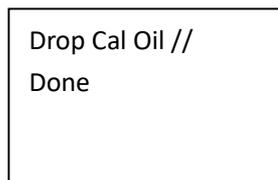

Fig.5
5. As indicated on the display, drop new oil to be tested to the testing bowl. Press the Power button to execute calibrating until the display shown result stored as shown in Fig.5 below.